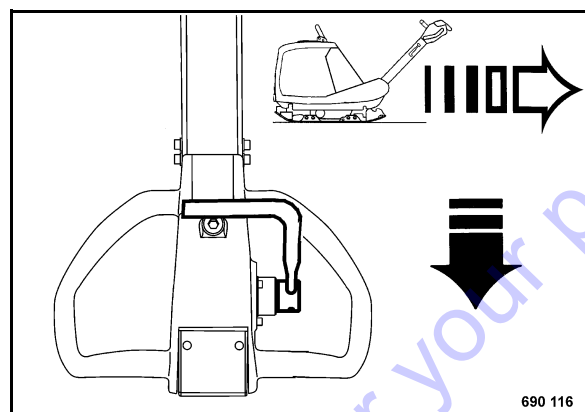

Fig. 25
- Move the travel lever (Fig. 25) backwards as required for the desired speed.